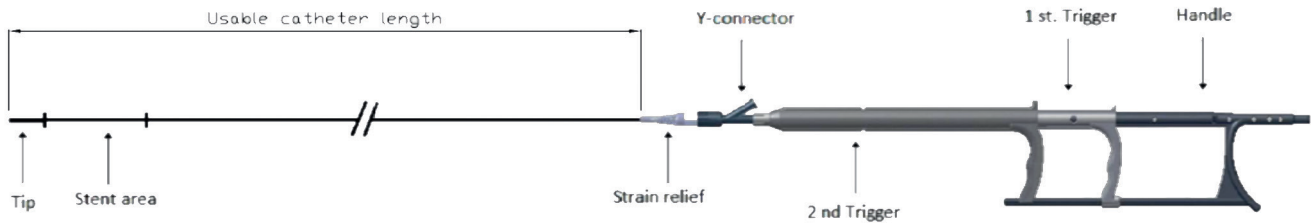

Figure 1 Stent system
- A stent system, as shown in Figure 1, comprised of an inner tubing assembly that contains the guide wire lumen, a stent delivery sheath and a system stability sheath, which are linked together by means of a handle. The guidewire lumen terminates distally in an atraumatic delivery device catheter tip and originates proximally in a luer hub designed to accept a compatible guide wire.